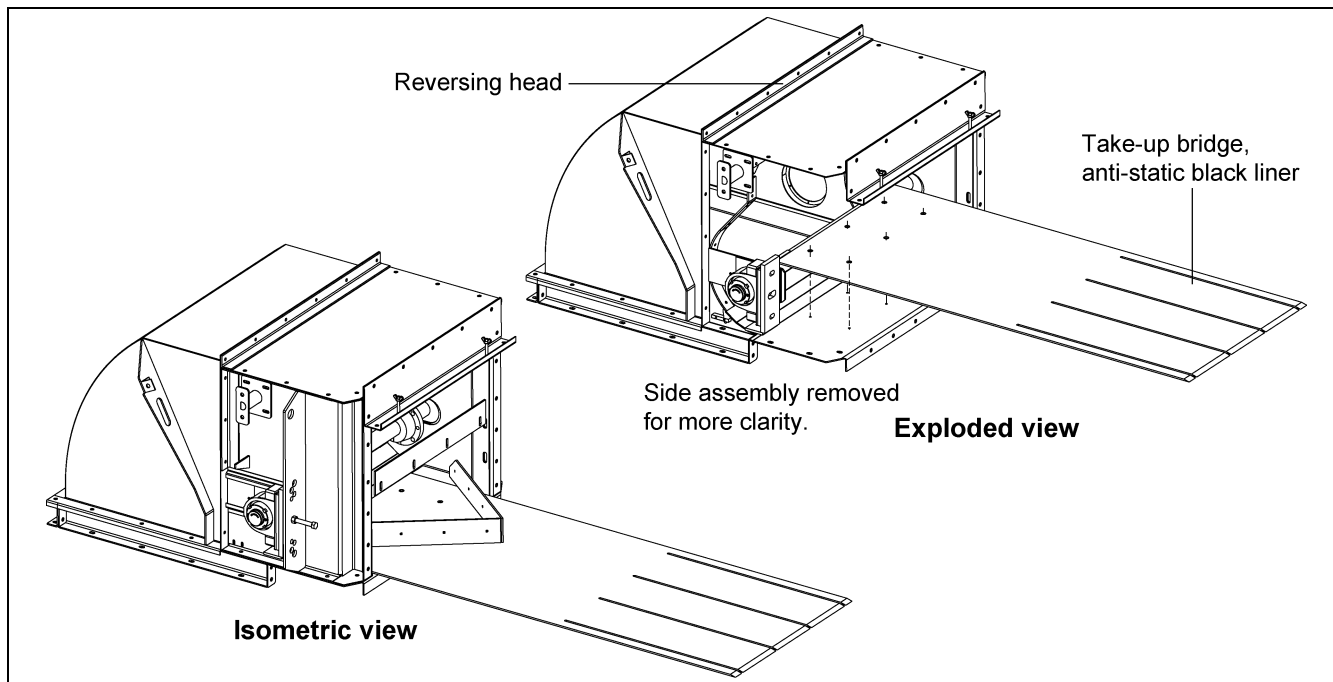
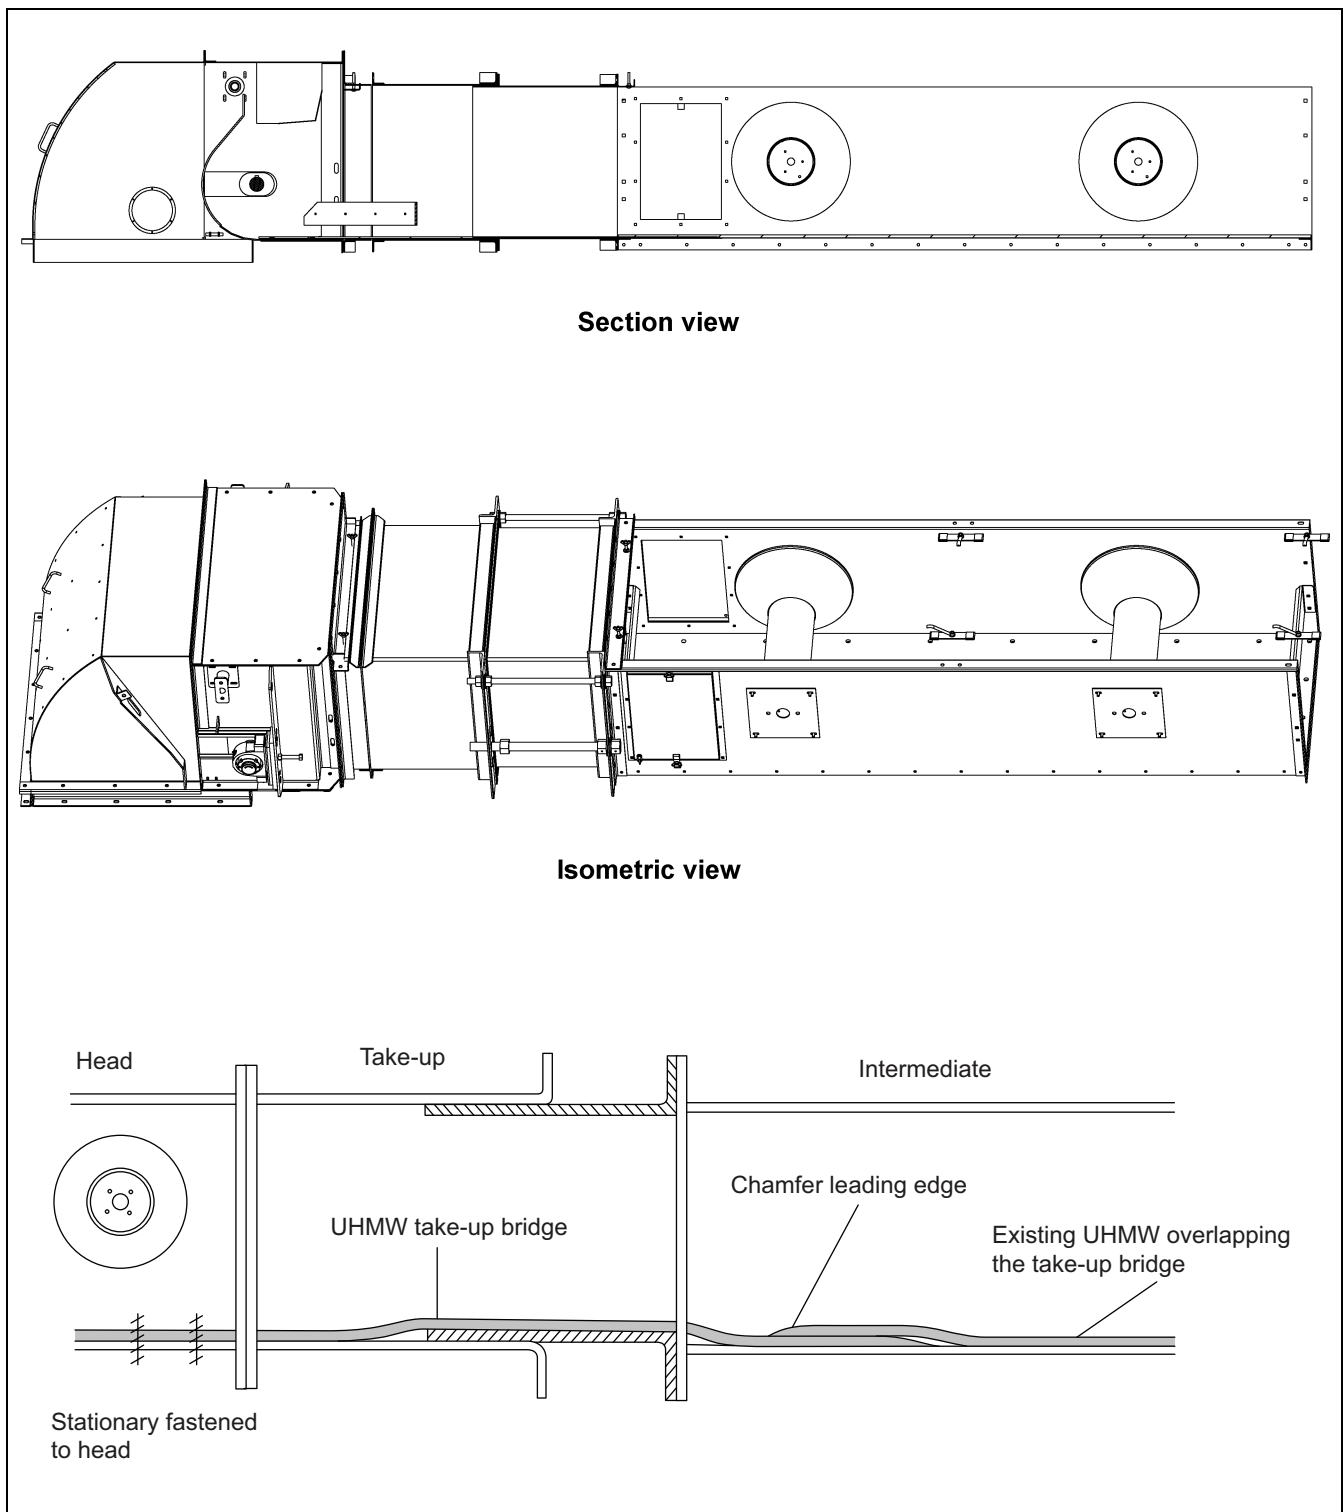

Figure 2
Figure 5
3. Fasten the UHMW sheet to the head housing using six (6) 1/4"-20 x 3/4" button head socket cap screw (or equivalent).
4. The UHMW take-up bridge will then go through the take-up and **UNDER THE INTERMEDIATE LINER** using existing hardware. (See Figure 2 below to Figure 5 on Page 4.)